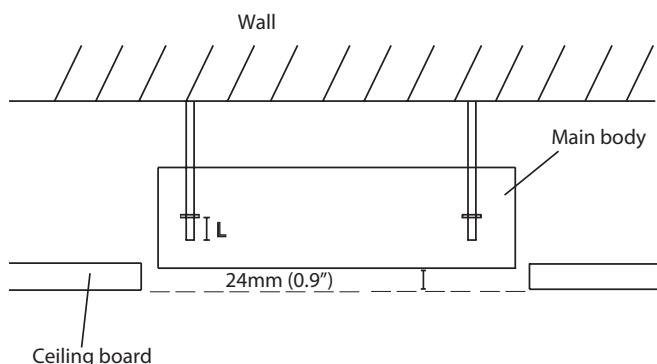

Fig. 3.6
**NOTE:** The bottom of the unit should be 24mm (0.9") higher than the ceiling board. Generally, L (indicated in Fig. 3.6) should be half the length of the suspension bolt or long enough to prevent the nuts from coming off.